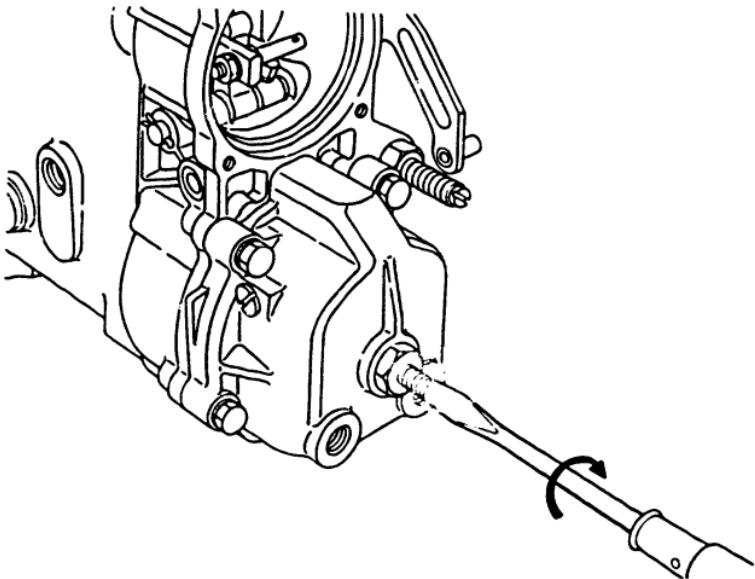

Fig. 33 Governor spring compression
1. Remove the cap (135) and gasket (134), and loosen the locknut (133).
2. Fully compress the governor spring (128) by turning the adjusting bolt (130). (Fig. 33)
**Note:** The direction of the adjusting bolt (130) thread depends on the rotational direction of the injection pump: